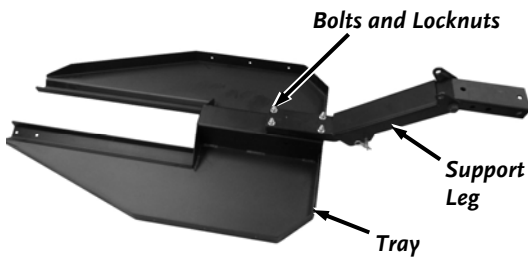

Figure 9
2. Install the Tow Bar to the Tray with four 3/8-16 X 2.5 Bolts and Lock Nuts (from product package) using two 9/16" Wrenches (**Figure 9**).